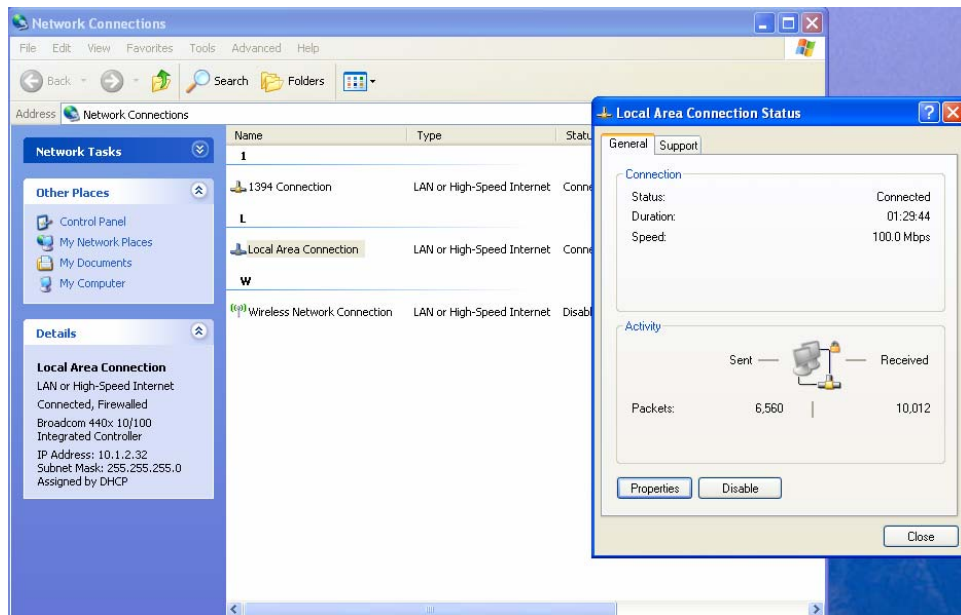

FIGURE 1-3: LOCAL AREA CONNECTION DIALOGUE BOX
b) Click **Local Area Connection** → **General** → **Properties** (see Figure 1-3).